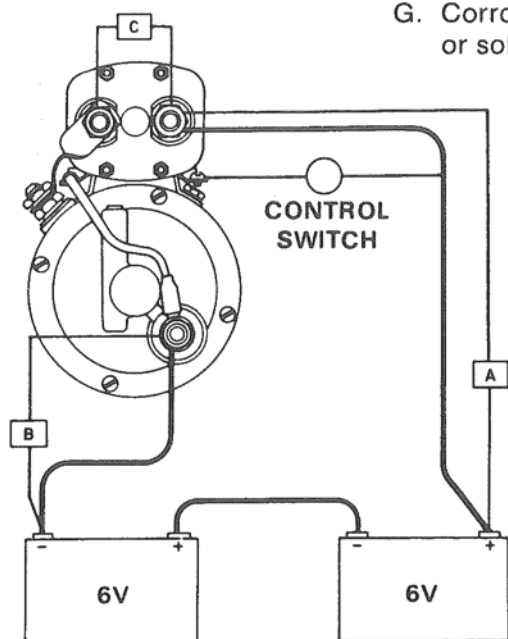

Figure 3. Voltage Drop Test.
1. Using a voltmeter capable of low readings, test for voltage drops at three (3) locations while cranking engine. Figure 3. Voltage drop specifications are: